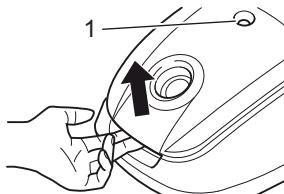

Fig. 18
1. Open the dust compartment cover by unlatching and then lifting it (Fig. 18).